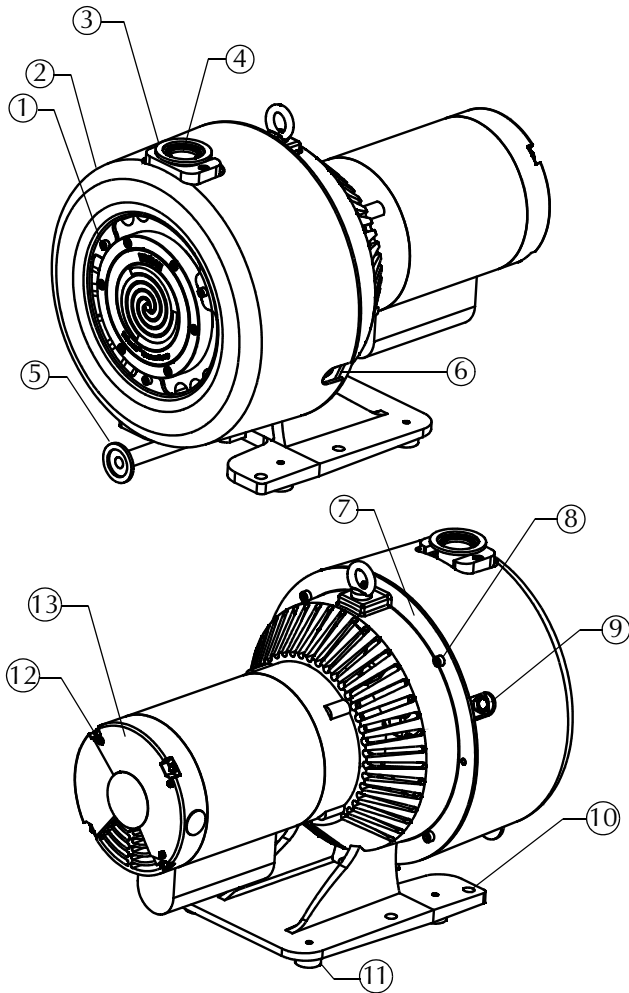

Figure 3 TriScroll 620 Vacuum Pump
2. Remove the three screws (item 12 in Figure 3 on page 5) that are holding the motor electrical cover (item 13 in Figure 3).
1. Remove three (3) M5 screws (item 1 on Figure 3 on page 5) that secure the cowling (item 2 on Figure 3) to the scroll module. Remove the cowling.
3. Remove the four (4) M6 screws (item 8 on Figure 3) holding the frame (item 7 on Figure 3) and scroll module together.
5. Rotate the module 90 degrees in either direction and realign the two (2) locating pins on the scroll module with the mating frame holes. Ensure that the rubber spider is still on the motor coupling and that the coupling teeth are properly aligned.
6. Rejoin the scroll module with the frame and install and tighten the four (4) M6 screws removed in step 3.
7. Reinstall the cowling using the three (3) M5 screws removed in step 1.